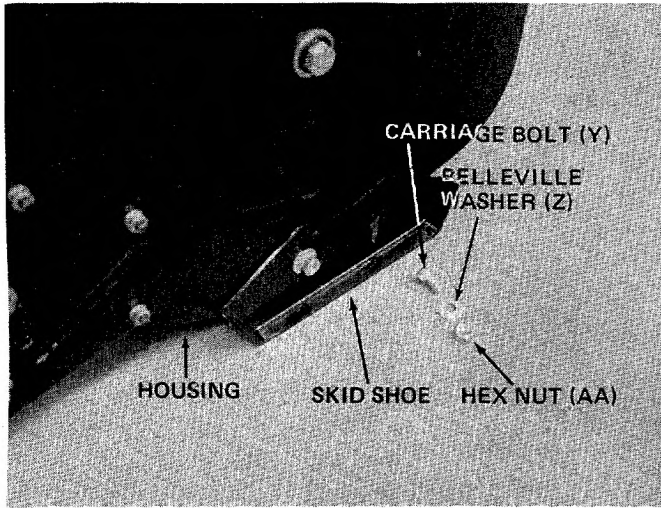

FIGURE 2
1. Assemble the skid shoes to each side of snow thrower housing. Place head of carriage bolt (Y) to the inside of housing and fasten with belleville washer (Z) and hex nut (AA). Only make finger tight at this time. See figure 2.